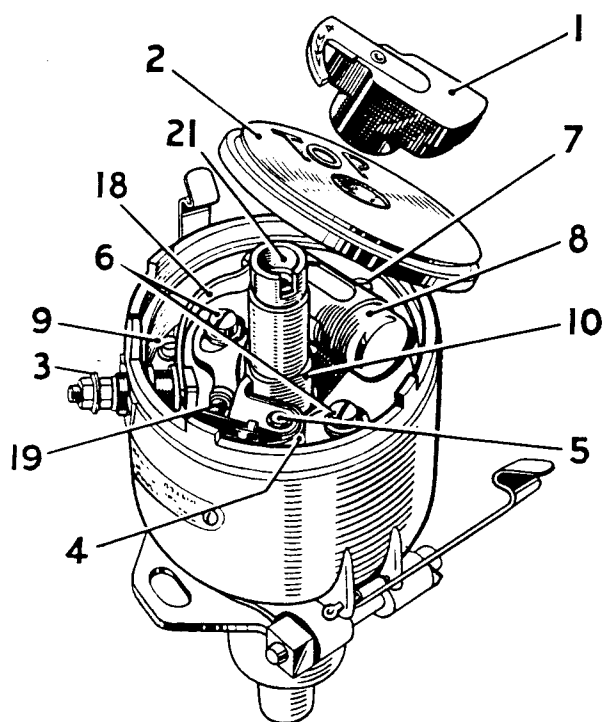
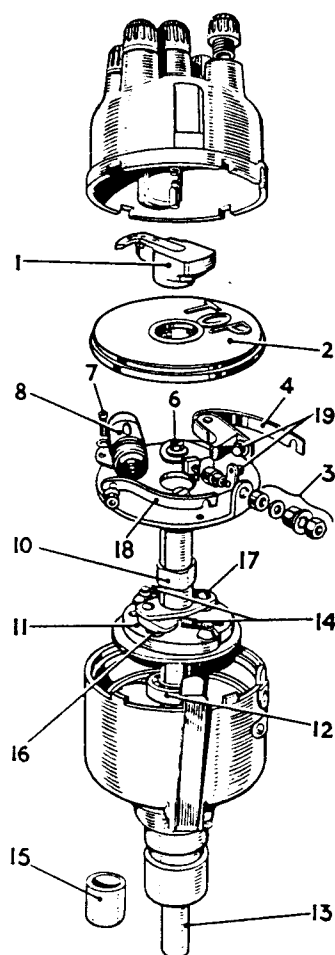

FIG. 16
FIG. 17
**Lubrication (See Fig. 16).**
1. Keep the engine crankshaft in the position giving maximum contact opening and slacken the two screws (6), Fig. 16, securing the fixed contact plate.
2. Lift the rotor (1), Fig. 17, off the top of the spindle. If it is a tight fit, it should be gently levered off.
3. Remove the dust excluding plate (2).
4. Slacken the nuts (3) on the terminal post and lift off the end of the contact
breaker spring (4). The contact breaker lever can now be lifted off its pivot (5), Fig. 16. Take out the two screws (6), complete with spring washers and flat steel washers, which secure the plate carrying the fixed contact point, and remove the plate.
5. Remove the screw (7) securing the condenser clip, lift the slotted terminal connection off the post and remove the condenser (8).
6. Remove the locking nut (3) and insulating bush from the terminal post on the outside of the distributor body. The terminal post complete with insulating bush and locating tag can now be removed from the inside.
7. After the removal of the two screws (9), Fig. 16, and spring washers fitted at the edge of the contact breaker base, the latter can be removed from the body of the distributor.
9. The cam (10), Fig. 17, automatic timing control assembly (11), and shaft assembly complete with ball bearing (12) can be removed from the distributor body by gently tapping the distributor shaft (13) at the driving end.
1. Remove the bearing bush (15), Fig. 17, from the lower end of the body by using a hand press and a rod of suitable diameter.
4. Place the contact breaker base in position on the distributor body and secure by replacing the two fixing screws (9), Fig. 16, together with spring washers.
5. Replace terminal bolt, locating tag, and insulating bush through the hole in the contact plate and the corresponding hole in the distributor body and secure in this position by fitting the insulating bush and nut (3) on the outside of the distributor body.
6. Position the plate carrying the fixed contact point on the contact breaker base and secure it in position by means of the two screws (6), first placing a spring washer and flat steel washer under the head of each screw.
7. Locate the slotted head of the condenser strip (18) under the head of the terminal bolt and secure the condenser in position by means of its screw.
8. Place the insulating washer over the contact breaker pivot pin (5), Fig. 16, and position the contact breaker lever on the pin. Locate the slotted end of the contact breaker spring (4) between the head of the terminal screw and condenser strip and tighten the nut to lock the spring in position. Adjust the contact breaker setting to give a gap of .010" to .012" (.25-.30 mm.) when fully opened.
- Note :** If it becomes necessary to renew the contact points (19), fit a replacement set comprising fixed and moving points.
9. Replace the dust excluding plate (2) and place the rotor (1) on top of the spindle, locating the register correctly and pushing the rotor fully home.